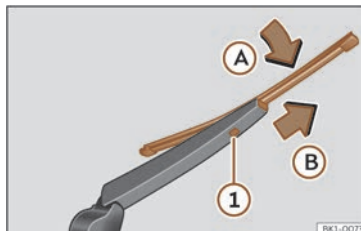

Fig. 146 Changing the rear wiper blade
- Turn the blade slightly >>> Fig. 146 (arrow A).
- Hold down the release button ① while gently pulling the blade in the direction of arrow B.
- Insert a new blade of the **same length and type** in the rear wiper arm in the opposite direction to the arrow B and hook into place button ①.